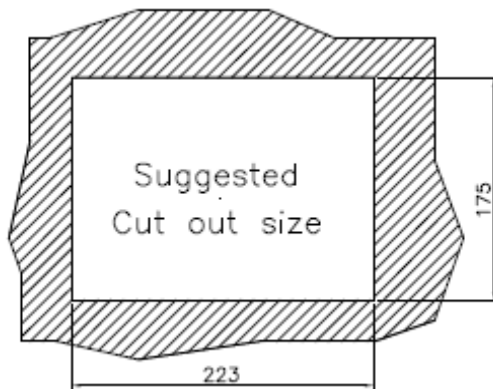

Figure 4-6: AFL-08AH-N270-CR Panel Opening
- Step 2:** Cut out a section from the panel that corresponds to the rear panel dimensions of the flat panel PC. Take care that the panel section that is cut out is smaller than the overall size of the frame that surrounds the flat panel PC but just large enough for the rear panel of the flat panel PC to fit through (see **Figure 4-6**).